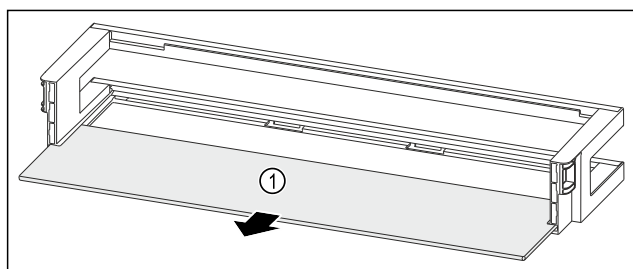

Fig. 94 Door rack with shelf
- Remove the shelf Fig. 94 (1).